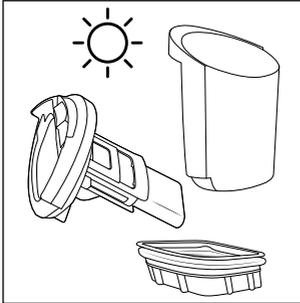

Fig. 27
- ◆ Allow the dirt filter **10**, the waste water tank **2** and the lid of the waste water tank **9** to dry completely (see fig. 27).